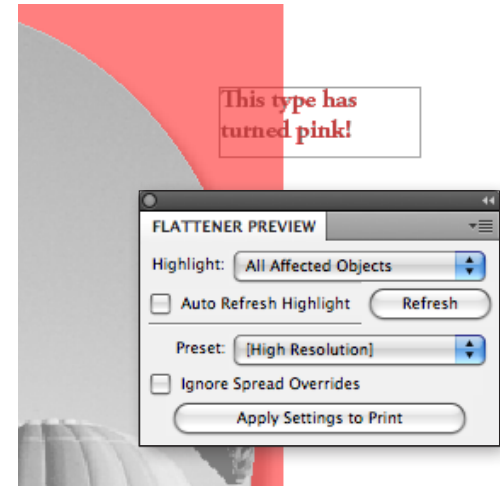

Figure 8: Figure shows Flattener Preview panel set to Affected Objects. Type has turned pink.
- ▶ Put text and thin lines on a layer above any nearby transparency. If you don't, these elements will be rasterized or converted to vector clipping path outlines during the flattening process. You can spot potential problems by previewing your transparency effects in the Flattener Preview panel (Window > Output > Flattener Preview). In the Highlight menu, choose All Affected Objects (Figure 8). If type or fine lines appear in pink, they're affected by the transparency.